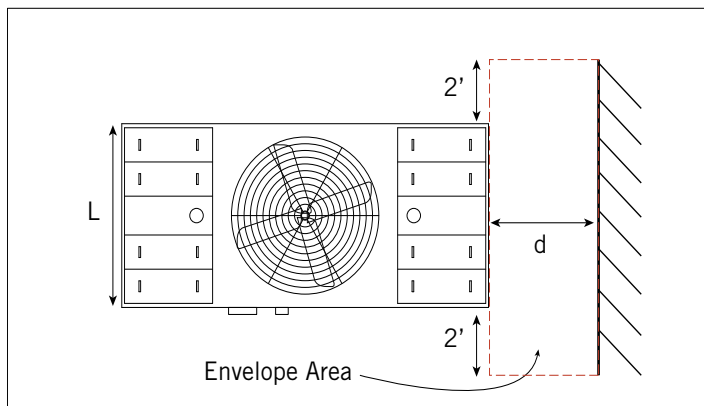

Figure 2a. Plan View of a Dual Air Intake Unit Adjacent to Wall
2. **Air Intake Requirements:** Should it be necessary to install a unit with the air intake facing a wall, provide at least distance “d” between the air intake and the wall, as illustrated in Figures 2a and 2b.
The envelope area as illustrated on **Figures 2a** and **2b** is  $[(L + 2 + 2) * d] + [2(H+h) * d]$ , where: